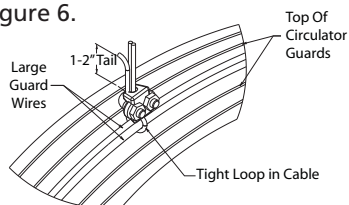

Figure 6 — Cable Clamp Detail
8. Attach the secondary safety support cable used to give additional protection in the event of failure of other mounting hardware and brackets. To ensure proper installation of the secondary safety support cable, carefully read and follow all steps starting with Figure 6.
1. Loop one end of the cable around the large diameter wires of both the front and rear guard as shown in Figure 6.